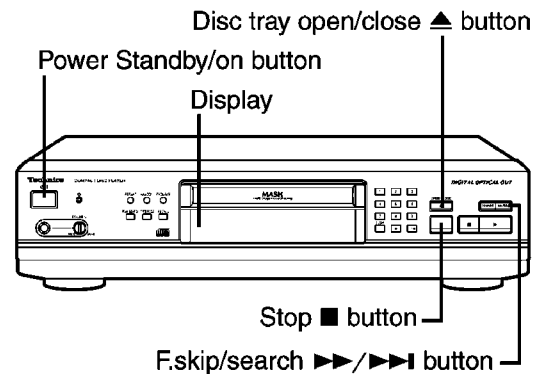

Fig. 7-3.
2. Press the Disc tray open/close button to open the disc tray, and load the test disc (SZZP1054C). Refer to Fig. 7-3.
3. Hold down the Stop button for more than 2 seconds, and then press the F.skip/search button for more than 2 seconds while continuing to hold down the Stop button. Refer to Fig. 7-3. (The symbol "C" is displayed on the display. It indicates the self-diagnostic function is activated.)
4. Press the Stop button. Refer to Fig. 7-3. The display will show an error code, if any. Refer to Table 7-3.